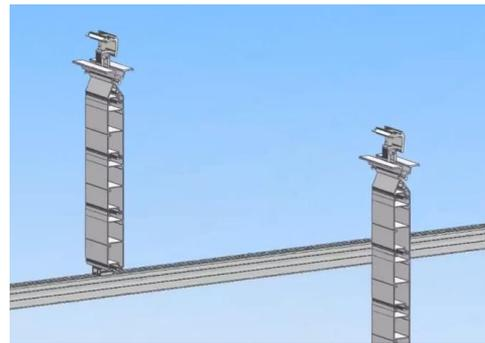

Figure 4.3.1B: Module Support base plate adjustment
- II. Adjust the Module Support base plate to be horizontal, for ease of positioning the panels on top of the Module Support [Figure 4.3.1B].